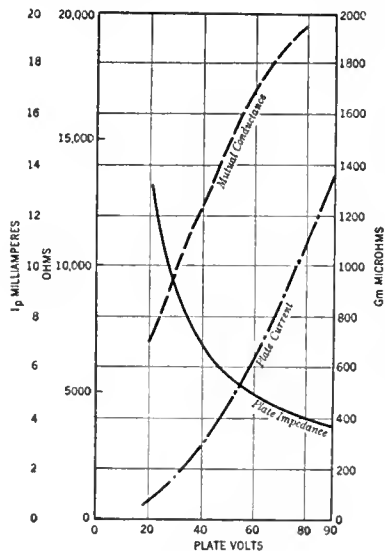

FIG. 1
Determine the plate resistance and mutual conductance for several values of plate and grid voltages, taking the data from that obtained in Sheet No. 5. Plot these values as shown in Fig. 1 and Fig. 2.
4. The curve in Fig. 1 does not have the values of μ plotted on it. Calculate these values and plot. What kind of tube do you think it is?